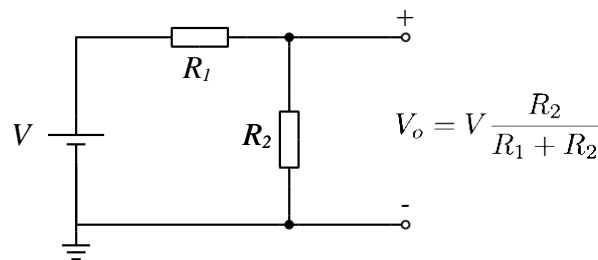

Figure 6 The voltage-divider circuit for use in part 3.
3. the voltage-divider network shown in Figure 6, using  $R_1 = R_2 = 1\text{ k}\Omega$  and the power supply set to  $V = 10\text{ V}$ .